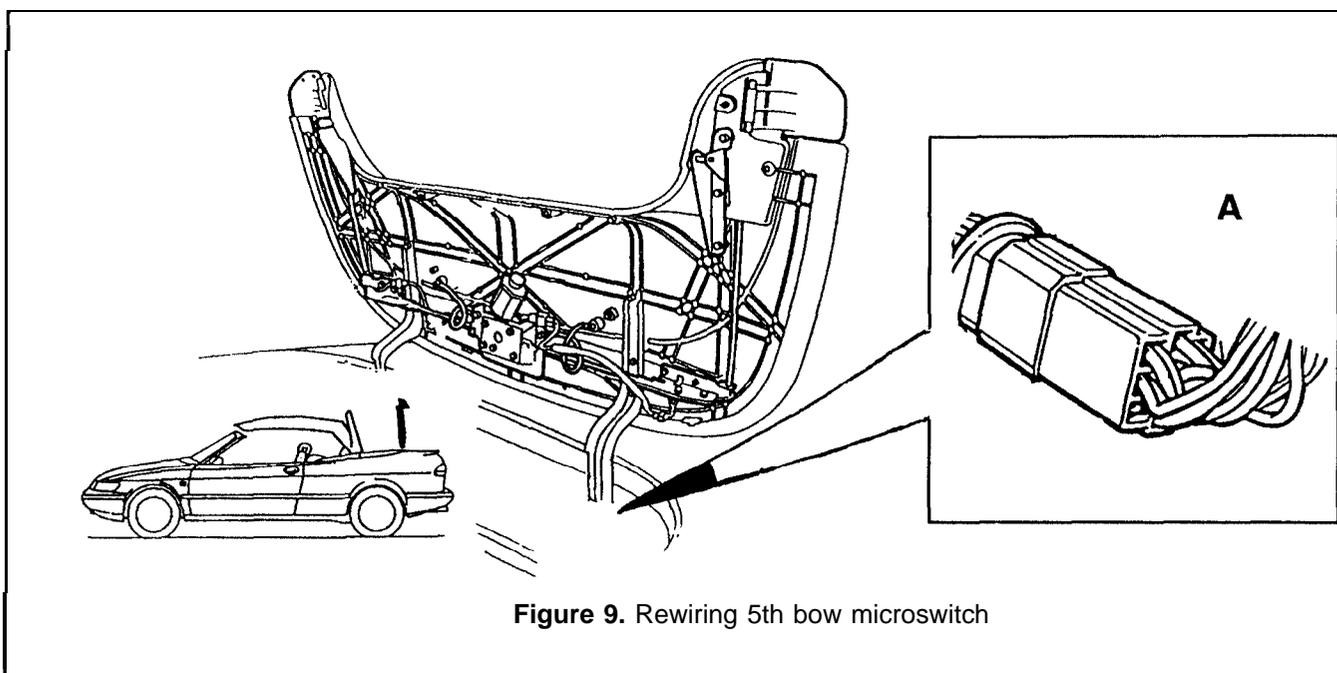

Figure 9. Rewiring 5th bow microswitch
1. Operate the top using the 'ROOF' switch until it is in the position shown in Figure 9 above. The top, 5th bow and the Tonneau cover should be fully raised.
2. Hook your finger around the wiring and move it downwards. The wiring should be tensioned so that it is just possible to insert the tip of your finger into the hole (Figure 9.A) in the top mechanism.
- a. Cut the cable tie. See Figure 9.a.
- c. Fasten a new cable tie in place. It should be tightened around the chamfering on the cross-bar so that it cannot slide sideways. See Figure 9.c above.
3. Extract connector H10-15 and unplug it. See Figure 9.A. Reconnect the pins as described below and on the following page.